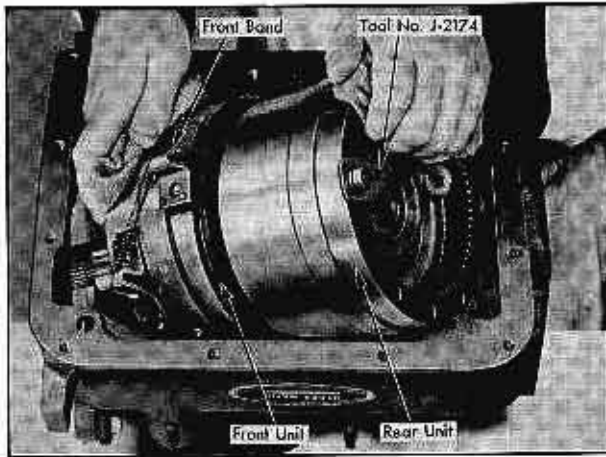

Fig. 14-29 Removing Front and Rear Units
8. Install Rear Hub Retainer, Tool No. J-2174 on rear unit and remove screwdriver from front of rear unit, Fig. 14-29.
4. Lift both front and rear clutch and drum assemblies, with bands, from transmission case, Fig. 14-29.